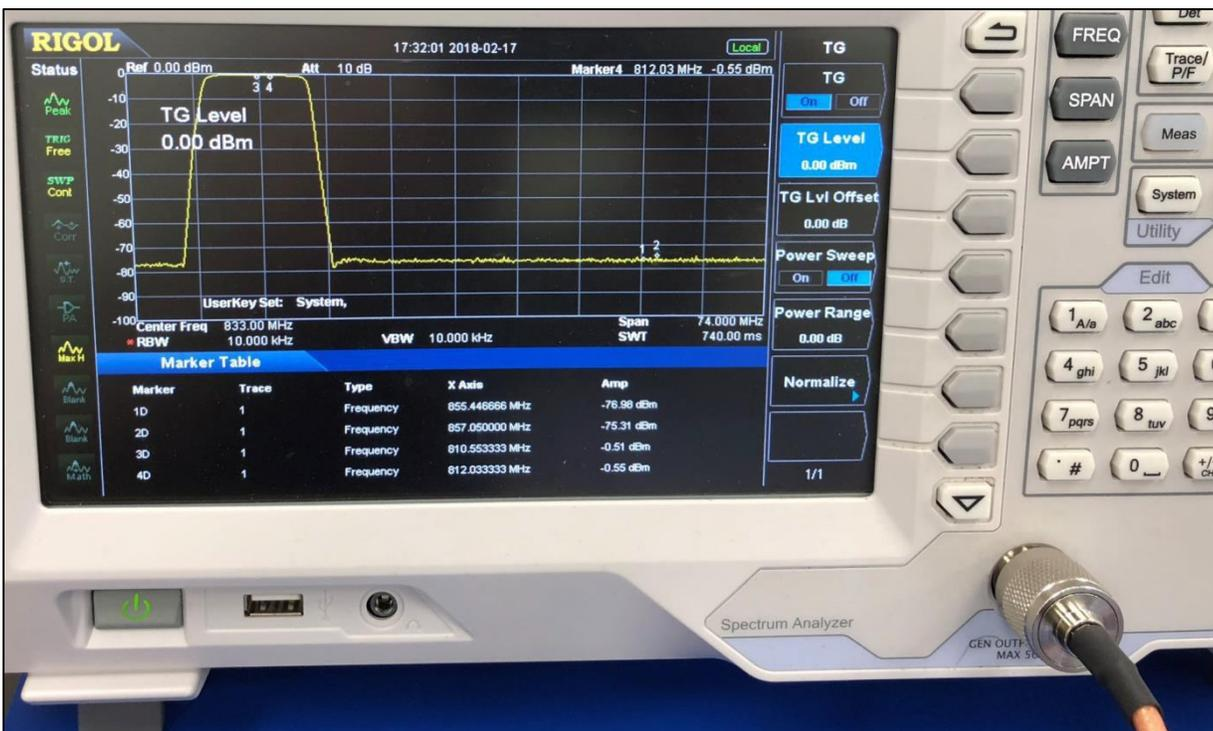

Figure 1.11
- (-0.51dBm)	The amp value or signal level of Marker 3D (Figure 1.11)